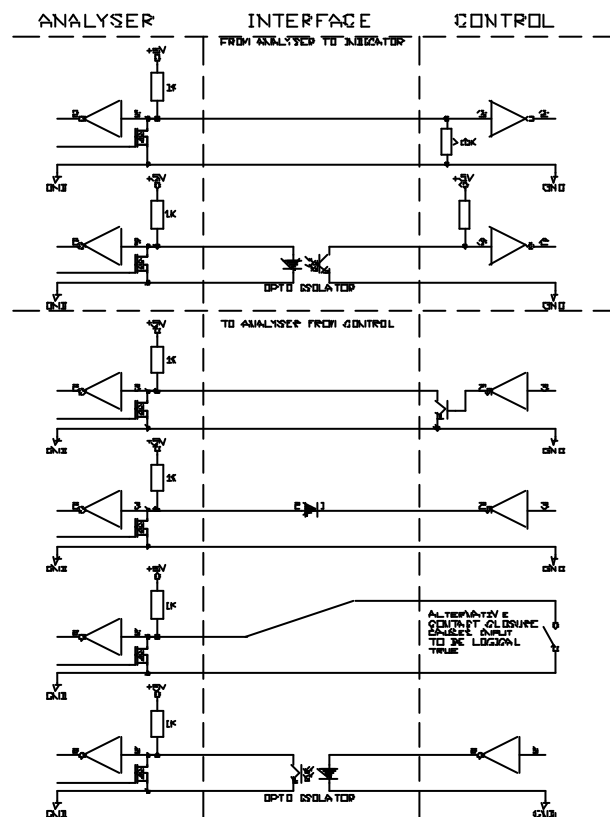

Figure 5 Typical Remote Logic Connections
- 3.7.3 Typical connections for switch, logic, and isolated logic are given in Figure 5 on page 12. The grounded switch method of control is useful where the analyser must be placed in a different area from the control and where only manual control is required. Computer or process controllers should use the direct or isolated method of operation. Isolated connections should be used if the analyser is in an electrically noisy environment, with the analyser some distance from the controlling logic, and where the controlling logic is connected to the local earth.